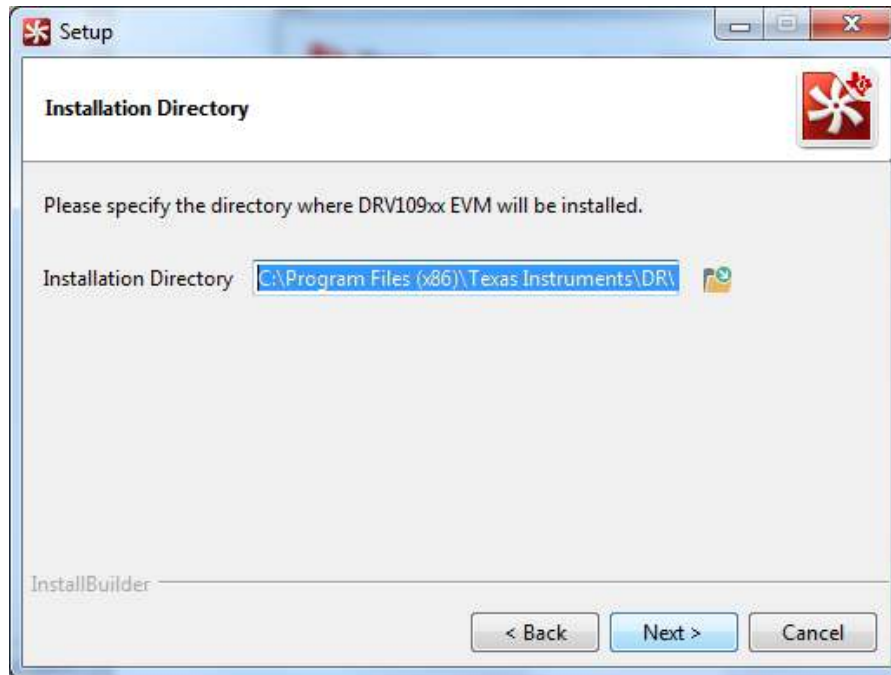

Figure 19. GUI Destination Directory
4. Set the destination directories for the GUI installation and click the *Next >* as shown in Figure 19. TI recommends to keep the default values as provided in the installer.